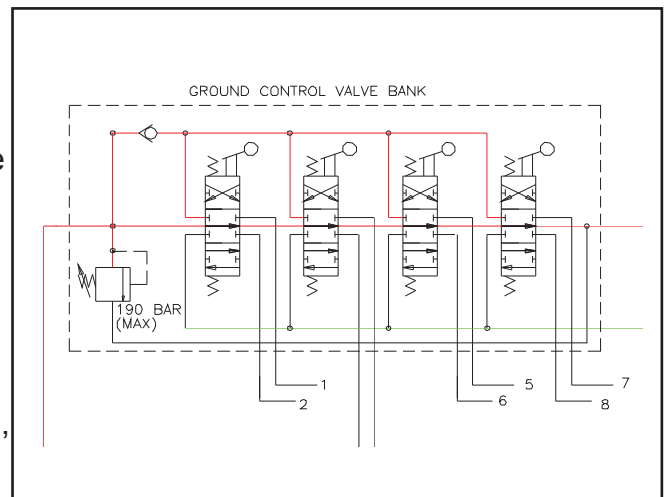

Figure 3-10: Ground control valve.
- It is not possible to operate the platform slew from the ground controls. On the ground control valve schematic shown in Figure 3-10, the last spool is that of the platform slew.